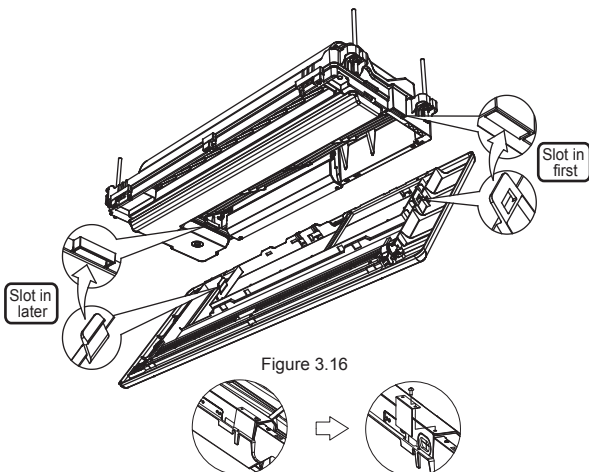

Figure 3.16
- 1) There are two buckle structures on the panel assembly for the installation of the auxiliary panel, and the assembly method of these buckles is as shown in Figure 3.16.